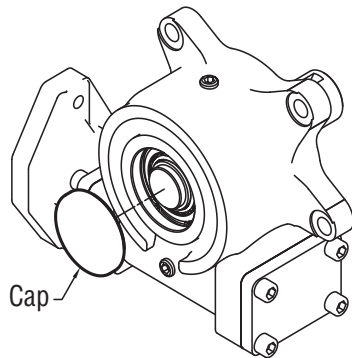

Figure 5-29, Output Shaft Cap
8. The output shaft fits tightly, so you may need to remove the cap on the back of the gearbox and lightly tap the end of the output shaft with a rubber mallet to remove it. (Figure 5-29)